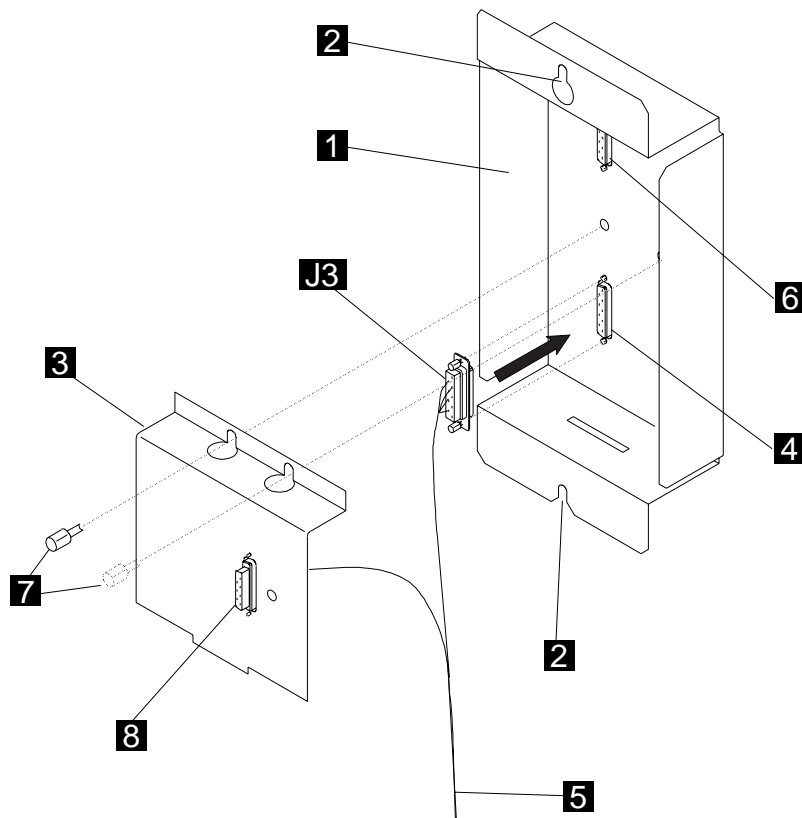

Figure 4-5. Power Control Cable Connection to the 3745 X1A Console Tailgate
- Step a. \_\_\_\_ If present, remove the customer cable plugged in **4** and if necessary the console cable plugged in **6** (see Figure 4-5).
- Step d. \_\_\_\_ Plug the connector **J3** to the plug **4** of the console tailgate **1** (see Figure 4-5).